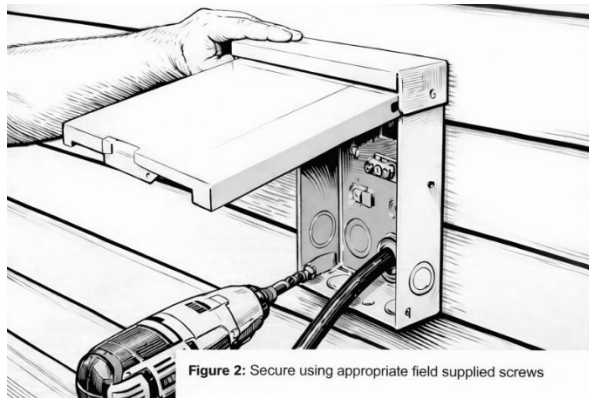

Figure 2: Secure using appropriate field supplied screws
- Secure using appropriate field supplied screws or anchors through the mounting holes as shown in *Figure 2*